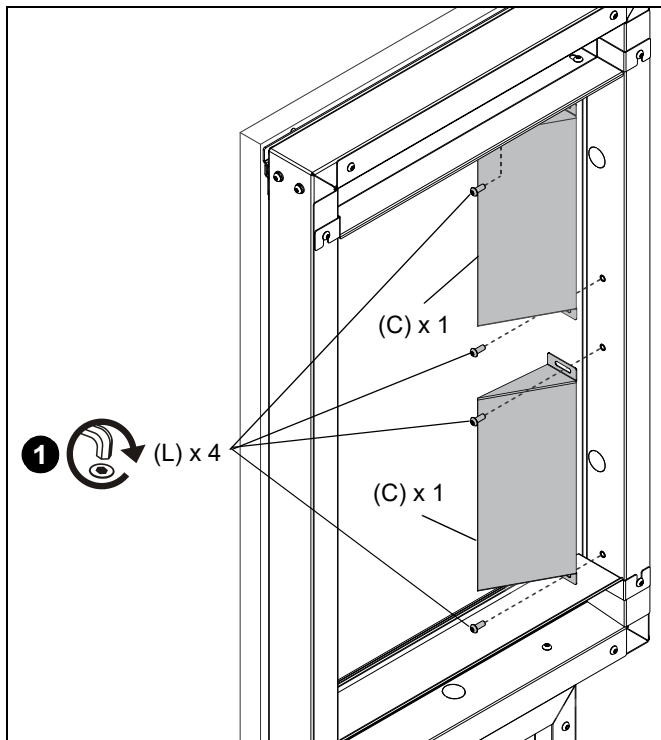

Figure 24
1. **CONFIGURATION 1 ONLY:** Install two port covers (C) to the vertical cover using four M8 x 20mm security screws (L). (See Figure 24)